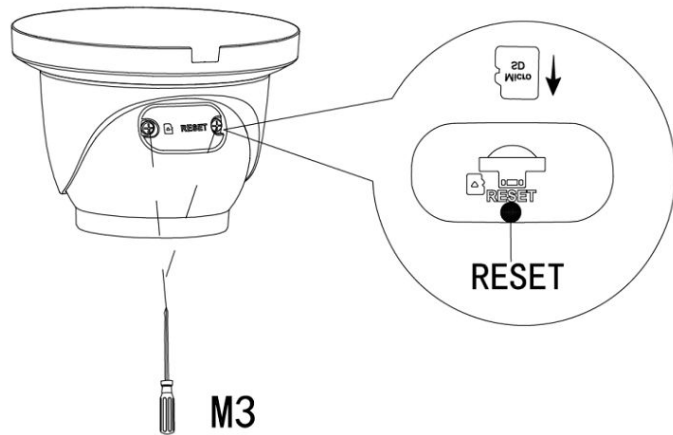

Figure 2-1
Step 1 You will need to loosen the camera base to rotate the camera body. Please refer Figure 2-1 for SD card and reset button location.